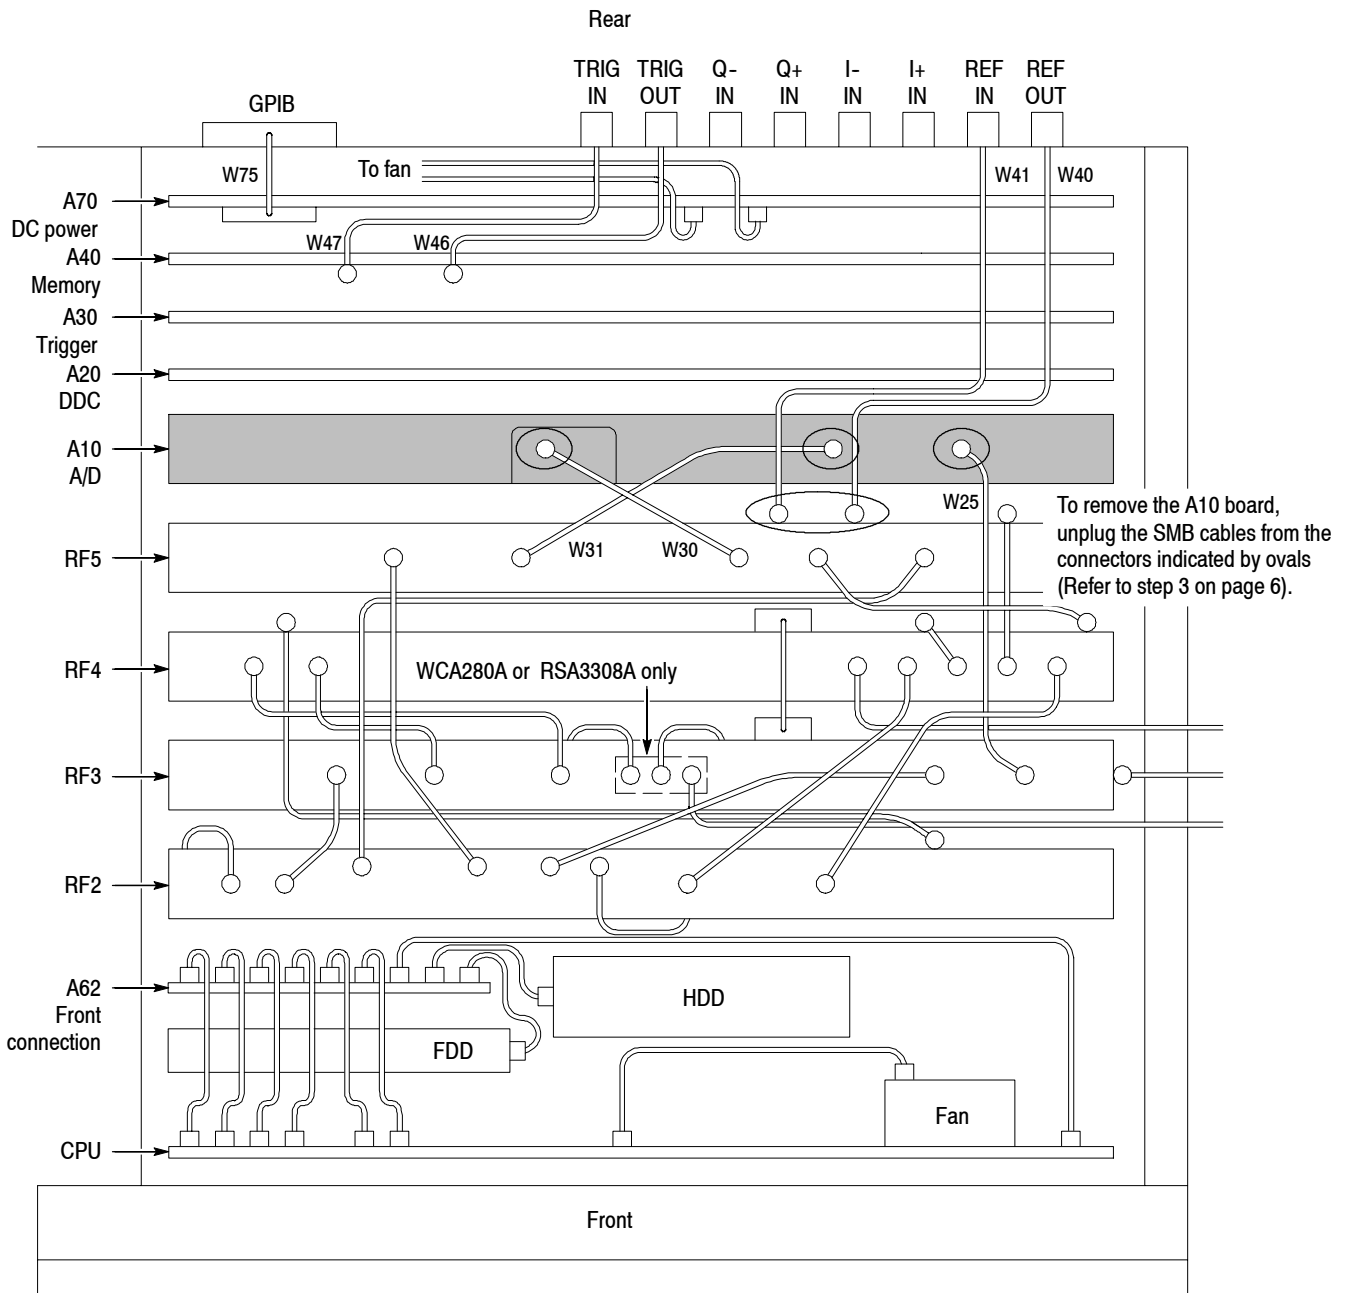

Figure 3: Top view of the card cage
1. Locate the A10 A/D board in Figure 3 (top view of the card cage).
3. *Disconnect cables to access the A10 A/D board:* See Figure 3 on page 5.